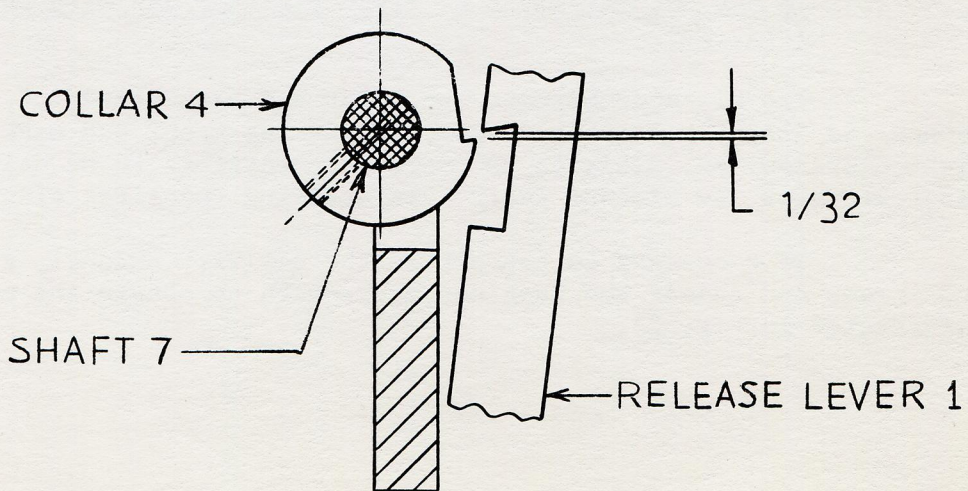

FIG.26
When the cam plate (3), Fig. 18, is forced downward by the return of the delivery lever, collar (4) on shaft (7), Fig. 26, there should be 1/32" of overtravel of the notch in collar (4).